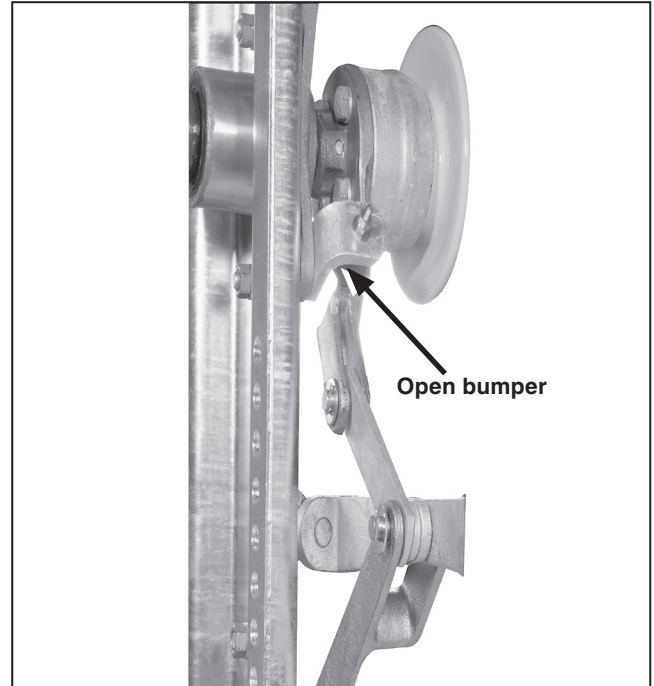

Figure 29. Verifying the switch operating lever is against its open bumper.
- (e) With the operating handle as far as it will go in the opening direction, each switch operating lever should lie snugly against its open bumper. See Figure 29. There should be perceptible tension in the operating pipe, locking the switch open. In the unlikely event these conditions are not met, more switch blade travel is required.